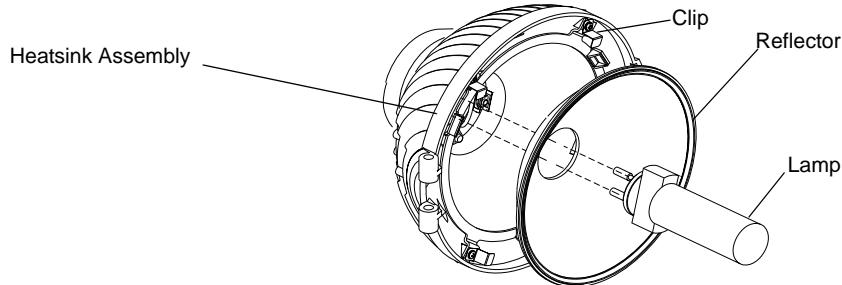

Figure 2-4: VL5Arc Lamp Replacement
- Step 2. Unlatch and swing open heatsink assembly. **Figure 2-4.**